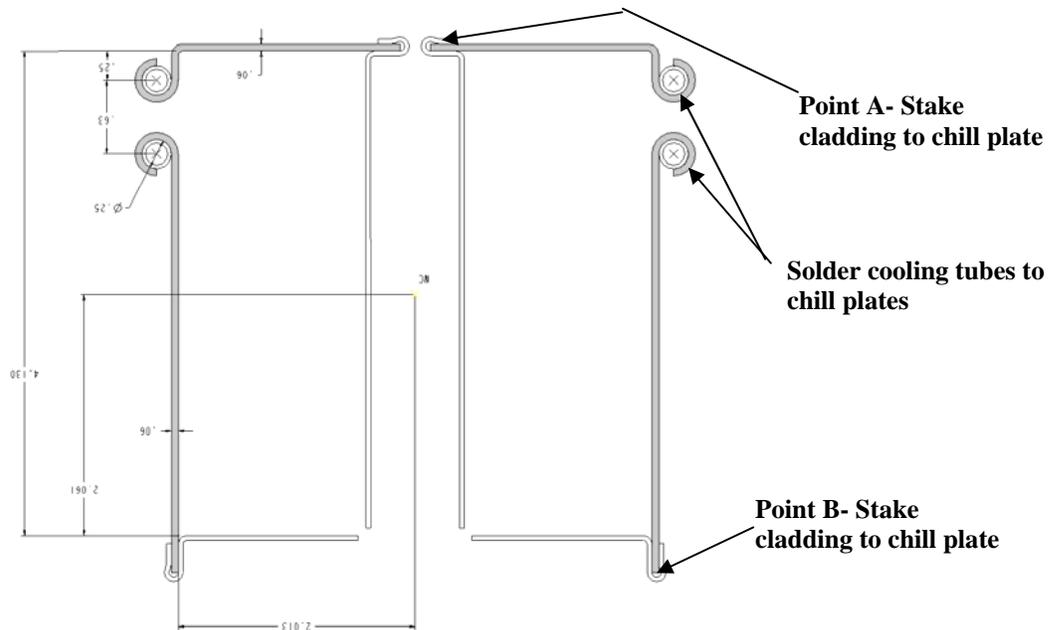

Figure 28- Outer Chill Plates
6.29.2.4 The chill plates typically interface with the inner copper cladding at points A and B identified on **Figure 28- Outer Chill Plates**.